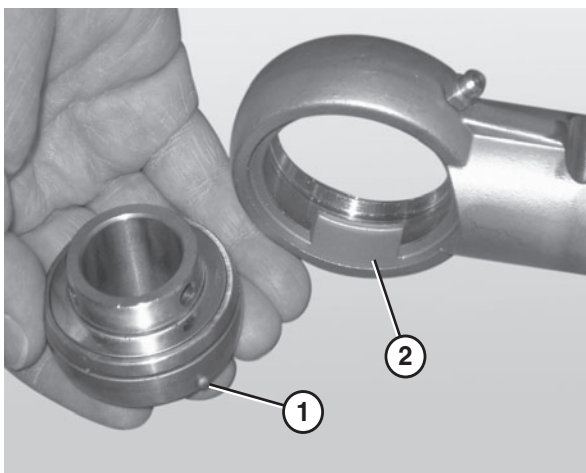

Figure 91
4. Remove the worn or damaged bearing (**Figure 91**).
When inserting the new bearing, make sure the anti-rotation notch (Figure 91, item 1) on the bearing lines up with the groove inside the housing (Figure 91, item 2).